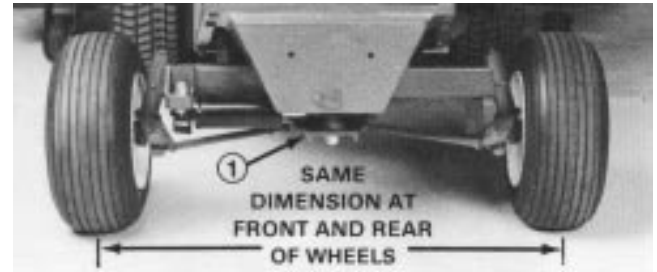

Figure 9
2. Loosen the jam nuts on both tie rods. Adjust both tie rods until center-to-center distance at front of rear wheels is 0 - 1/8 of an inch less than at the rear of the wheels (Fig. 9).